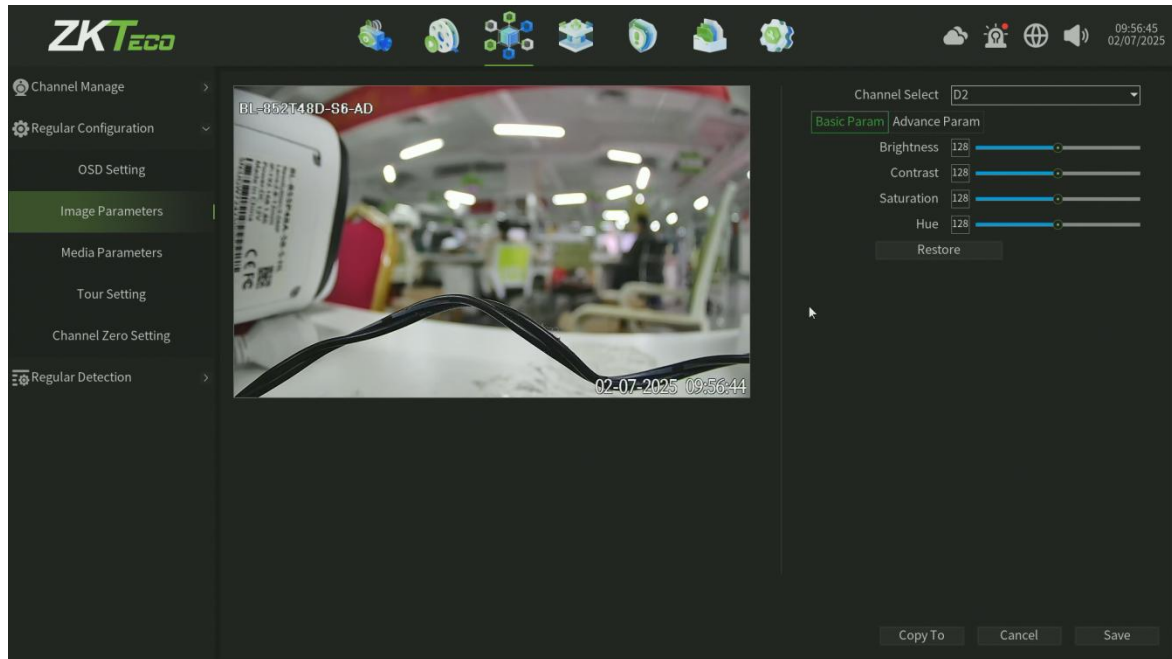

Figure 6.7 Image Base Param Setting
1. **Basic Param:** Adjust the Brightness, Contrast, Saturation and Hue of the channel, as shown in figure 6.7.